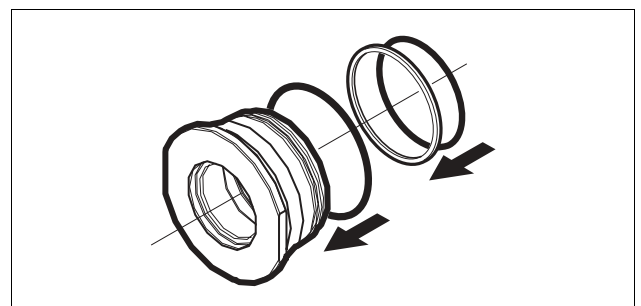

Fig. 30 Assemble the o-rings and the backup ring to the gland
- 21.** Assemble the o-rings and the backup ring to the gland. *See Fig. 30.*